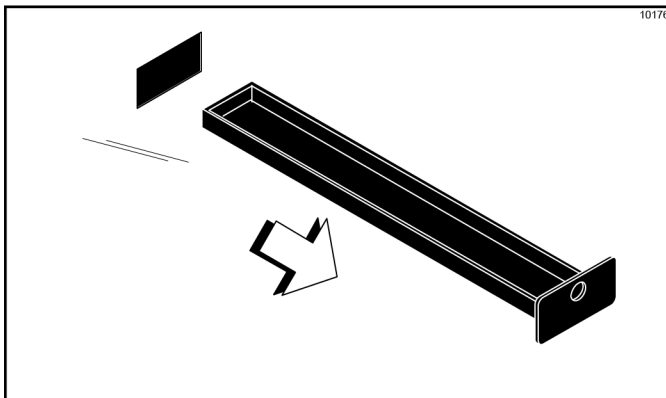

Figure 6-15
8. Slide the two drip pans into the holes in the left and rear panels. (See Figure 6-15.)